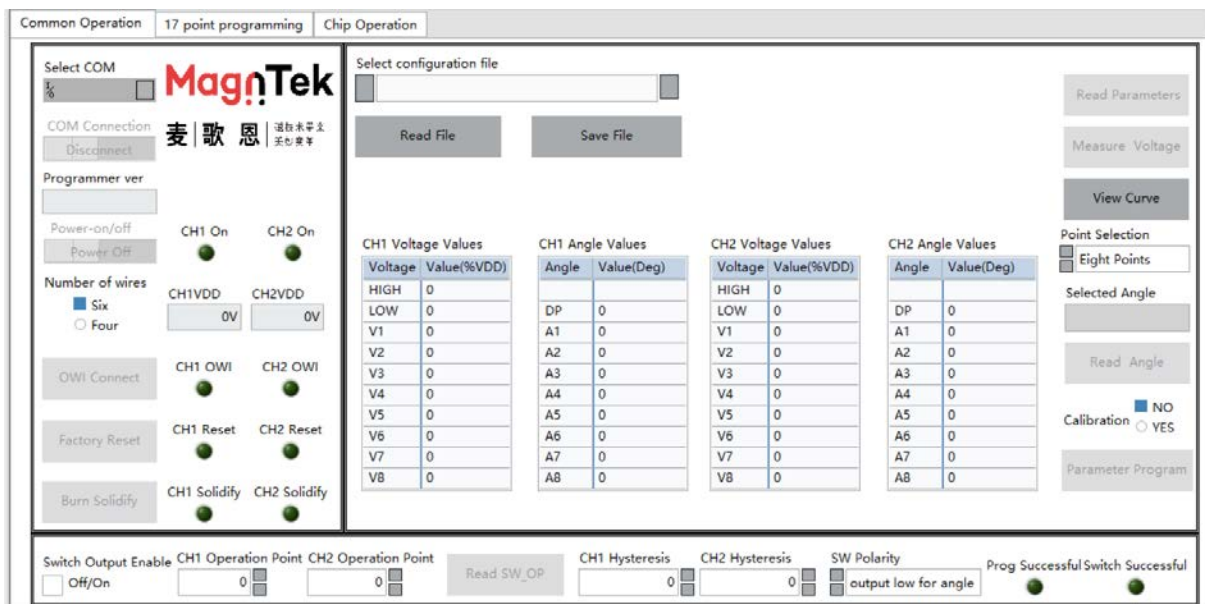

Figure 4.1.2 Programming interface of two analog output model chips
- Figure 4.1.2 shows the dual-chip analog output chip programming interface. The interface includes analog output general programming interface, 17-point programming interface and chip parameter read-only interface.